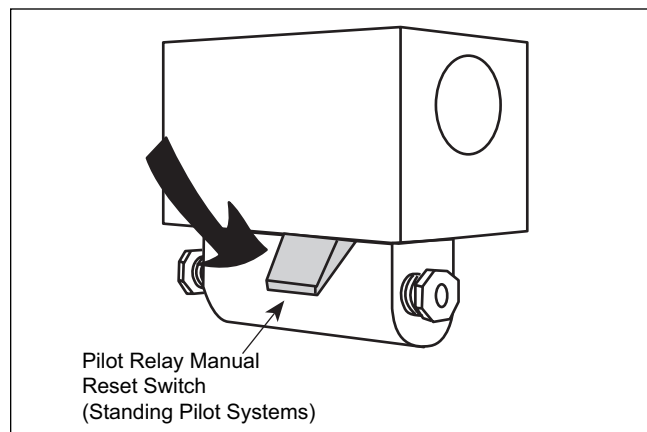

Figure 15 - Pilot Safety Relay.
- e. For standing pilot system, press on pilot relay lever (see Figure 15), light pilot and keep relay lever depressed for one minute then release. Once the pilot is lit, turn power switch to "AUTO PUMP."